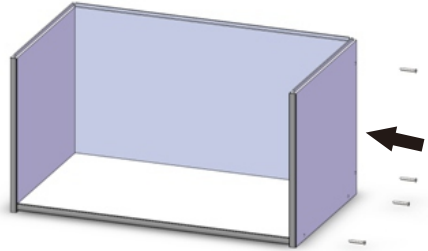

Fig 2 Installing sideboard
2. Install sideboard with screw (Fig. 2)